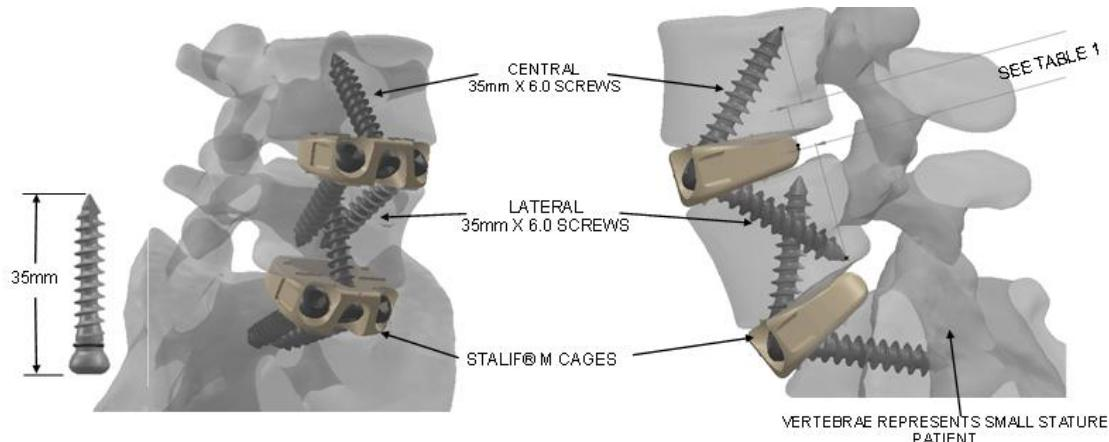

Figure 1. STALIF MIDLINE/ STALIF M 35mm screws – Maximum extension beyond cage
- STALIF M/ STALIF M-Ti/ STALIF M FLX cages are recommended for use with 25mm or 30mm long screws. If patient pathology requires 35mm screws, use imaging to ensure unicortical fixation occurs only. STALIF MIDLINE/ STALIF M 35mm screws can extend beyond the back wall of the cage to a maximum as shown in Figure 1. **STALIF MIDLINE/ STALIF M 35mm screws must not be used with 30mm STALIF M/ STALIF M-Ti/ STALIF M FLX cages.**